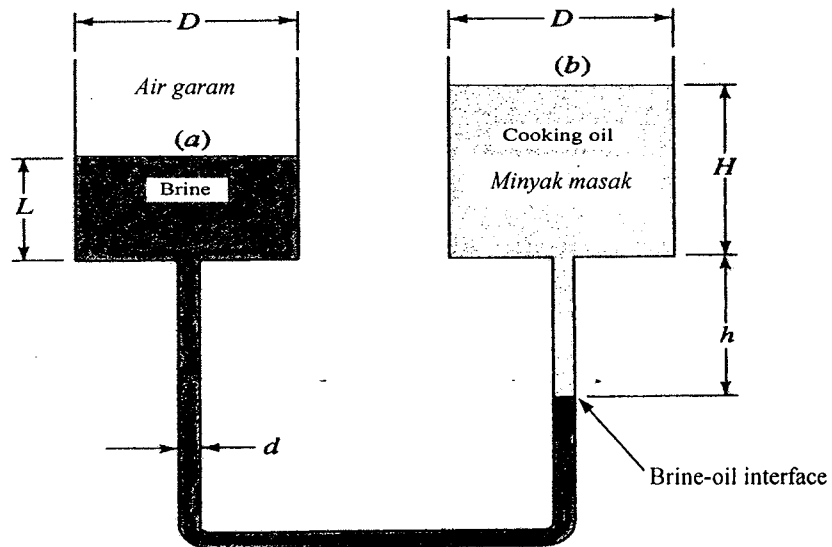

Figure Q.1. [a]
1. [a] The dimension of the manometer can sometimes give a significant effect to the pressure measurement. In Figure Q.1. [a] below, containers (a) and (b) are cylindrical in shape and conditions are such that  $p_a = p_b$ . Derive a formula for the pressure difference  $p_a - p_b$  when the brine-oil interface on the right rises a distance  $\Delta h < h$ , for  $d \ll D$ . Let the densities of brine and cooking oil be  $\rho_{brine} \text{ kg/m}^3$  and  $\rho_{oil} \text{ kg/m}^3$  respectively.